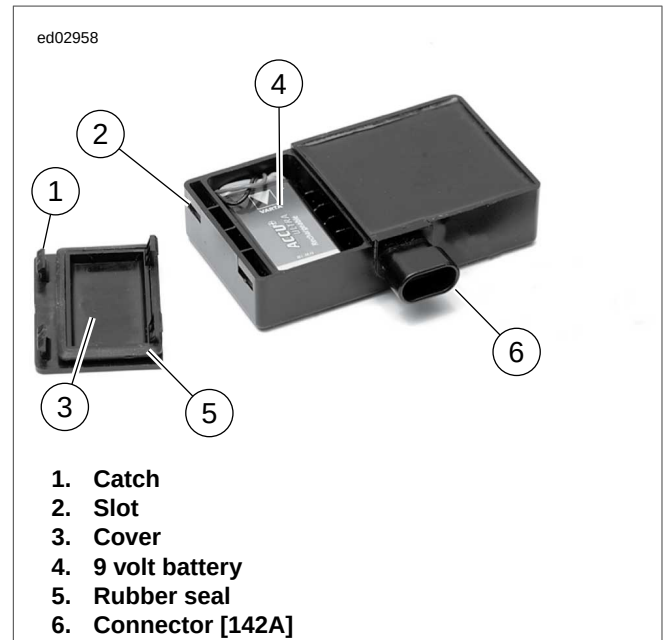
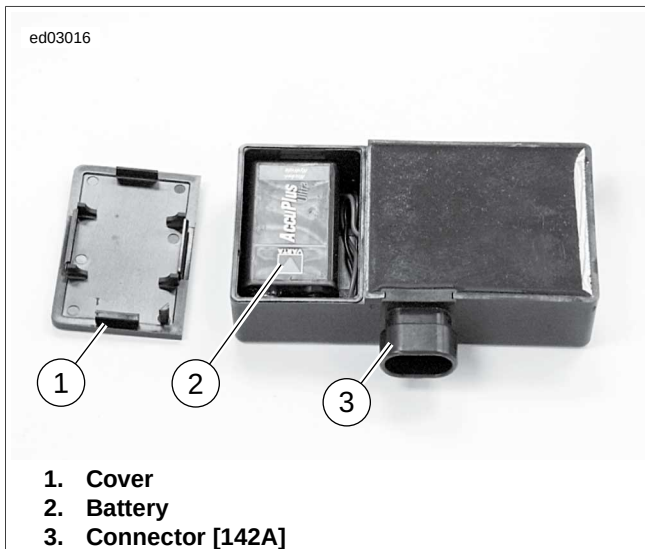

Figure 3-35. Siren Battery Compartment (Late Style Siren)
Figure 3-34. Battery Compartment (Early Style Siren)
- See Figure 3-34 and Figure 3-35. Early style siren will work with both TSSM and HFSM. Late style siren will only work with HFSM.
2. See Figure 3-34. Remove battery cover.
2. See Figure 3-35. With a small screwdriver or pick, push the catches (1) in through the two slots (2) in the end of the siren to release the battery cover (3).